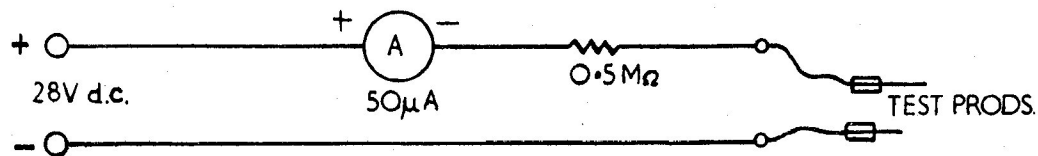

Fig. 7. Insulation test circuit
28. Measure the leakage current using a 0-50  $\mu$ A industrial grade ammeter or multimeter type 12889 with a 0.5 megohm ( $\frac{1}{4}$ W) resistor in series with the positive probe as shown in fig. 7. Connect the test circuit (fig. 7) to a d.c. supply variable between zero and 28V. Increase the voltage gradually from zero to 28V. The leakage current should not exceed 1.4  $\mu$ A when this voltage is applied between:—